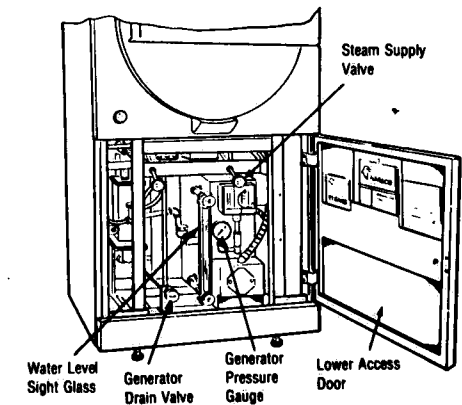

Figure 4-1. OPTIONAL STEAM GENERATOR.
4. For sterilizers supplied with a steam generator, flush the generator weekly as follows (Fig. 4-1):